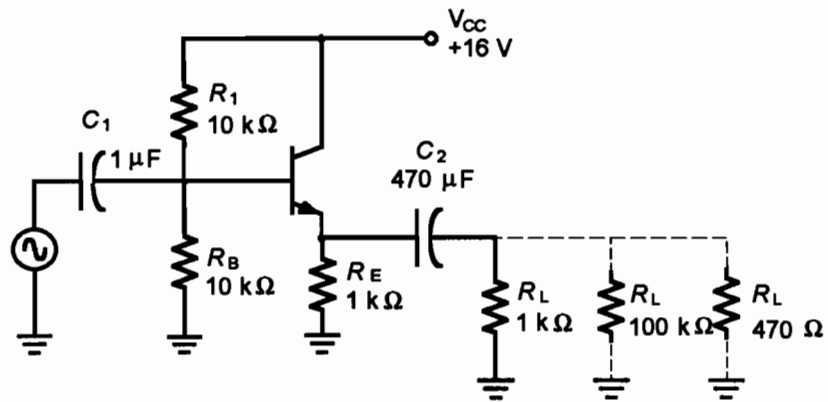

Figure 19.1
1. Build the circuit of Figure 19.1, using first the 100-k $\Omega$  load resistance. Apply DC power to the circuit. Use the function generator to apply a sinusoidal input signal of 1.5 Vp-p at 1 kHz.
Beginning with step 6, you will be measuring the input impedance of the CC amplifier. This is not a difficult measurement; however, it cannot be made directly as you would measure a resistor. If you look at the circuit of Figure 19.1, you will see that at capacitor  $C_1$ , there are two impedances in parallel: the bias voltage divider and the amplifier input impedance. You want to obtain the AC or active impedance of the amplifier so that the measurement must be made in an operating circuit.
1. Ensure that you start with your circuit connected as shown in Figure 19.1, but with no load resistor. Remove the 10-k $\Omega$  resistor ( $R_1$ ) and replace it with a 2.2-M $\Omega$  resistor. Make and record your predicted circuit values as requested below.
2. Apply circuit power and an input signal of 1.5 Vp-p at 1 kHz. The bias resistor  $R_1$  of Figure 19.1 fails open. What do you think will happen to the output AC and DC voltages? Record your answer below; then measure and record the results.